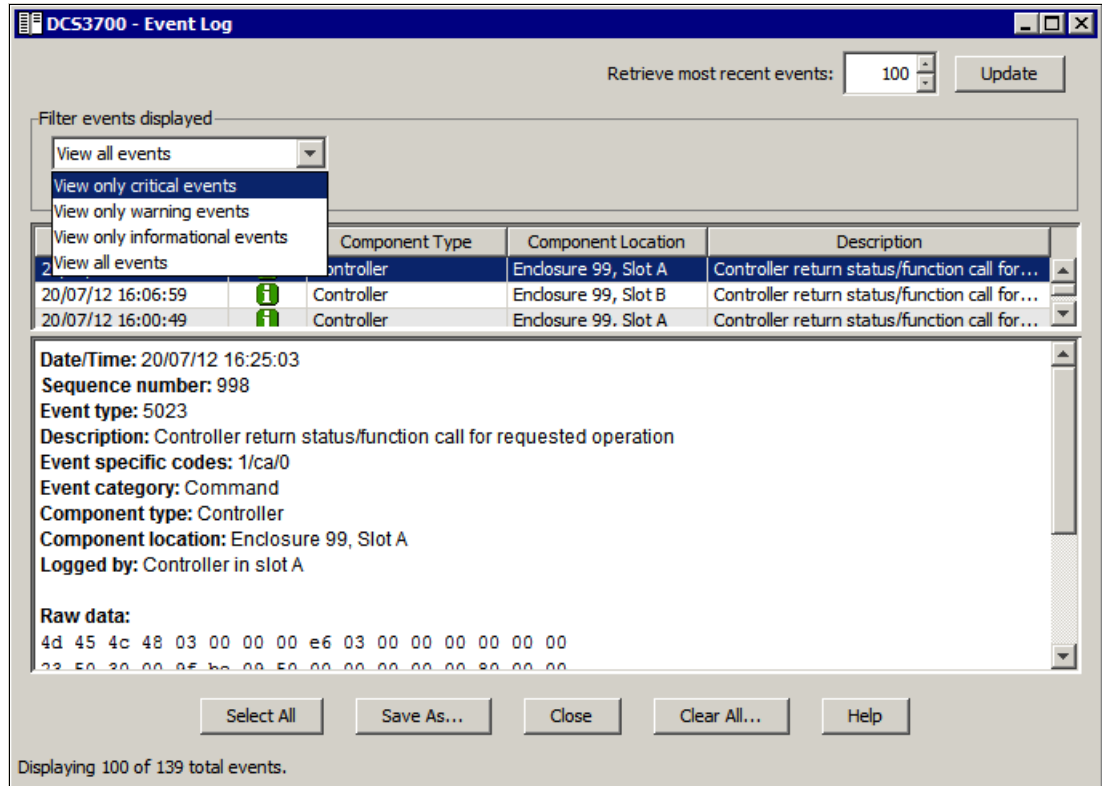

Figure 13-33 Drop-down menu to filter events
- ▶ The drop-down menu options are View only critical events, View only warning events, View only information events, and View all events, as shown in Figure 13-33.